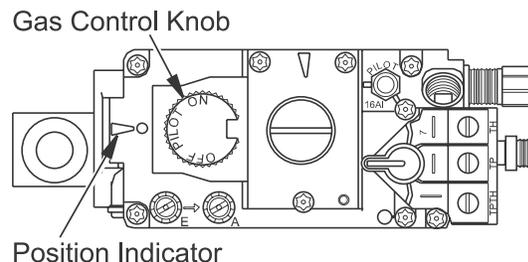

Figure 22 - Millivolt Control Valve
5. Push in gas control knob and turn clockwise to the OFF position (see Figure 22). **Note:** It is recommended that you maintain the gas control knob in the full OFF position during lengthy periods of seasonal non usage.
6. Wait five (5) minutes to clear out any gas. Then smell for gas, including near the floor. If you smell gas, **STOP!** Follow "B" in the safety information above. If you don't smell gas, go to the next step.
8. Push in control knob all the way and hold in. Immediately light the pilot by pressing the red ignitor button until a flame appears. Continue to hold the control knob in for about (1) minute after the pilot is lit. Release knob and it will pop back up. Pilot should remain lit. If it goes out, repeat steps 5 through 8.